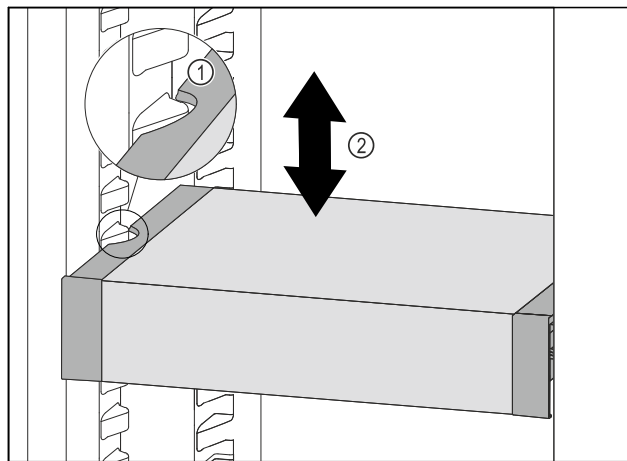

Fig. 75
- Pull VarioSafe forwards until the recesses in the side of the VarioSafe are at the level of the support rib in the refrigerator compartment. Fig. 75 (1)
- Move VarioSafe up or down in the refrigerator compartment until the desired height is reached. Fig. 75 (2)